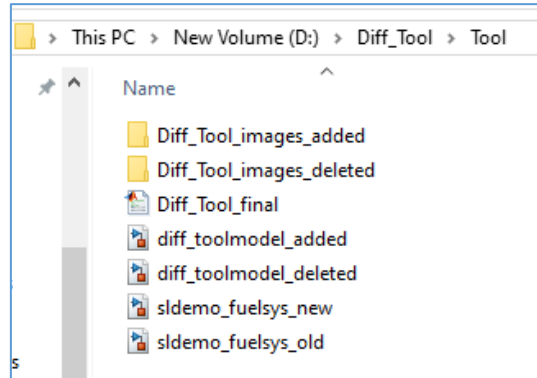

Fig. 5 Current directory of the diff tool after executing the tool
4. This is how the folder looks like after successful execution as shown in Fig. 5